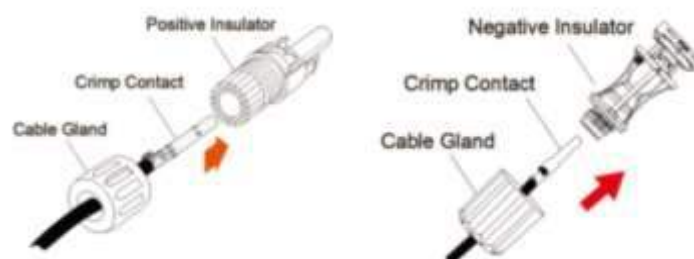

Fig. 4-39 Lead the cable through cable gland
- 3) Lead the cable through cable gland, and insert into the insulator until it snaps into place. Gently pull the cable backward to ensure firm connection (Fig. 4-39). Tighten the cable gland and the insulator (torque 2,5 N.m to 3 N.m).